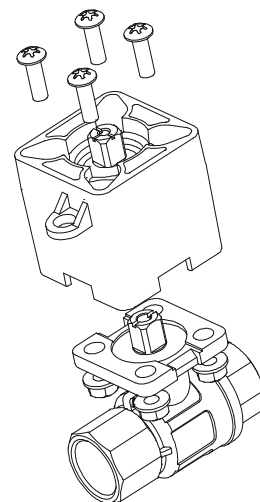

Figure 18: Installing the Barrier
3. Mount the thermal barrier onto the valve using the four included M5x16 mm machine screws and four M5 flange nuts. Tighten the screws to a recommended torque of 21 to 25 lb-in. (2.4 to 2.8 N·m) (Figure 18).